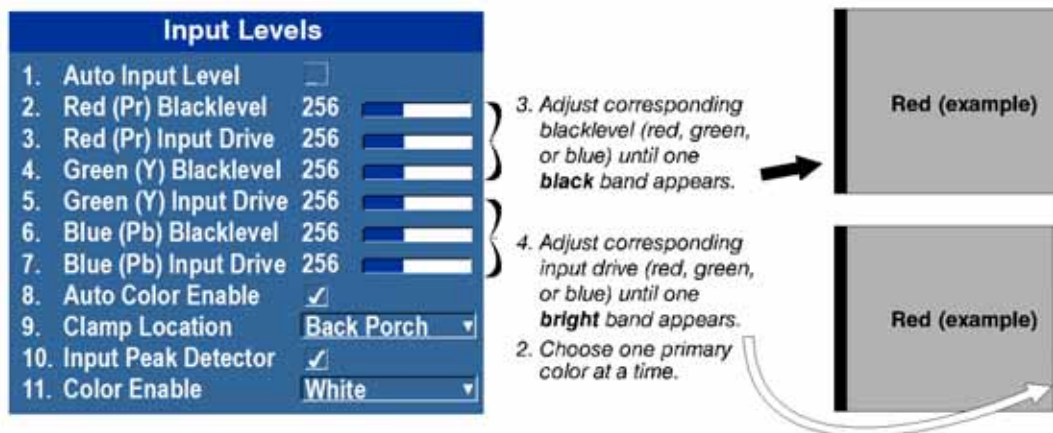

FIGURE 3-8 ADJUSTING INPUT LEVELS USING THE PEAK DETECTOR (RED EXAMPLE SHOWN)
- **Input Peak Detector:** A tool to assist with defining individual input levels, enabling you to accurately set the Input Levels for any particular source with the appropriate image. Enabling the Peak Detector activates a special operating mode for detecting *only* pixels that are considered black or white—all other levels are displayed as a mid-level grey. When used with a smooth grey scale pattern in which black and white are known to be at opposite edges of the image, you can watch these isolated areas while adjusting individual black levels and input drives until both black and white edges are *just* visible and distinguished from neighboring pixels. Images from this source will then display correct blacks and whites without crushing. See **Figure 3-8**.